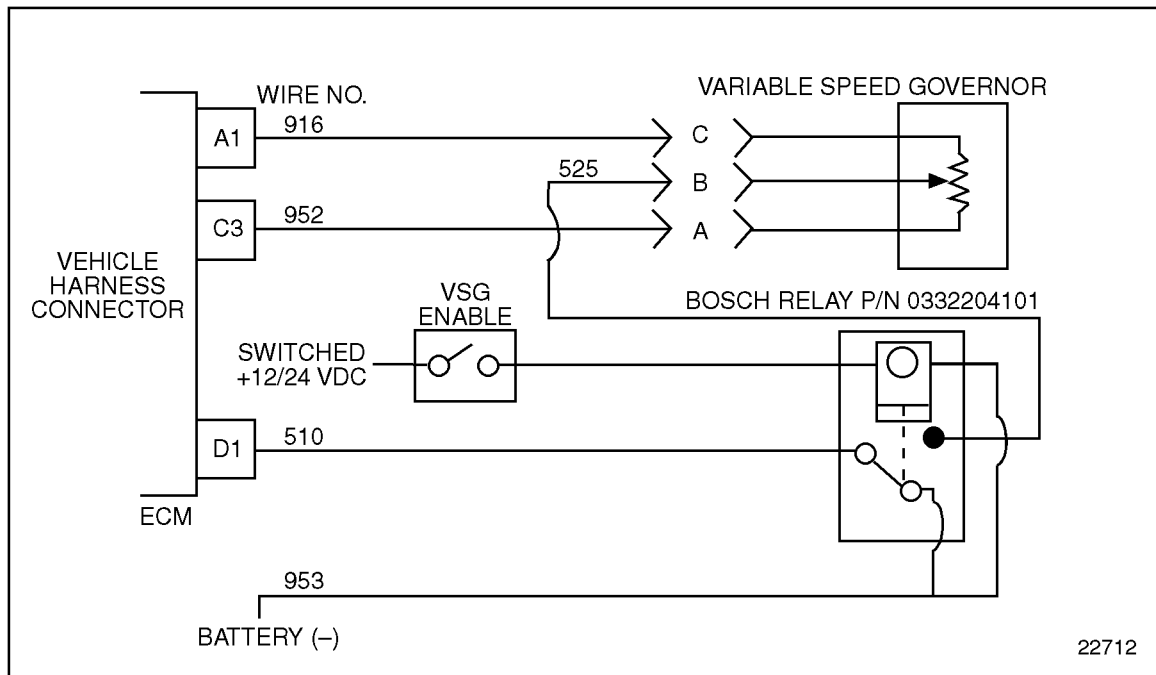

Figure 12-3 Variable Speed Governor Circuit
4. Measure voltage between B (signal #525/#510) and battery ground. See Figure 12-3.